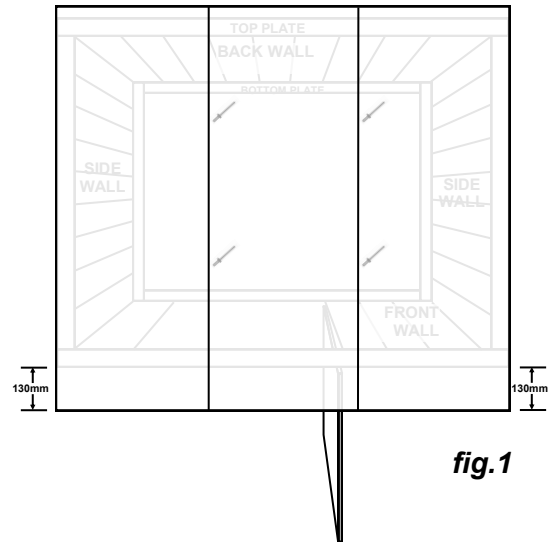

fig.1
- Position the Roof Sheets with front overhang of 130mm at each end (fig. 1).